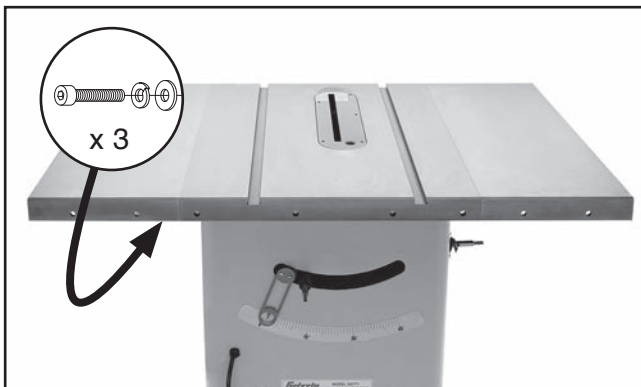

Figure 14. Extension wings installed.
2. While a helper holds extension wings in place, attach each wing flush with main table using (3) M10-1.5 x 30 cap screws, 10mm flat washers, and 10mm lock washers (see **Figure 14**). Do not fully tighten cap screws at this time.